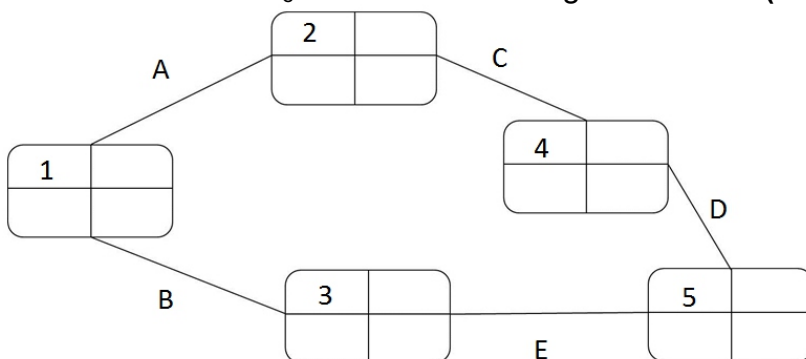

Figure 4: PERT Network
In the PERT network diagram illustrated in the figure 4 below, the targeted date for the completion of the project is nine (9) weeks.
- Indicate the  $t_e$  and  $s$  values on Figure 4 below. (10 marks)